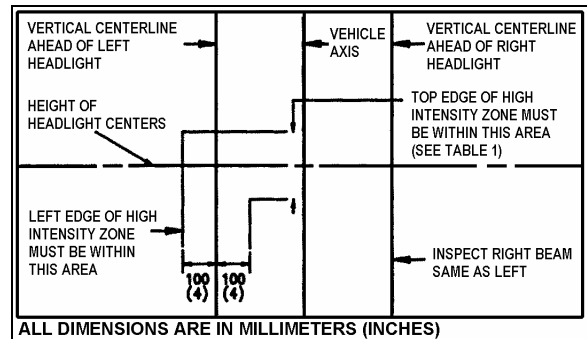

FIGURE 46: AIM INSPECTION LIMITS FOR LOWER-BEAM HEADLIGHTS 06506
8. The inspection limits in the vertical direction for low-beam headlights or the low beam of a dual-beam headlight, shall be as described in Table 1. In the horizontal direction, the left edge of the high-intensity zone shall be located from 10 cm (4 inch) left to 10 cm (4 inch) right of the vertical centerline of the beam. The viewing screen shall be located 7.6 m (25 ft.) in front of the vehicle (Fig. 46).